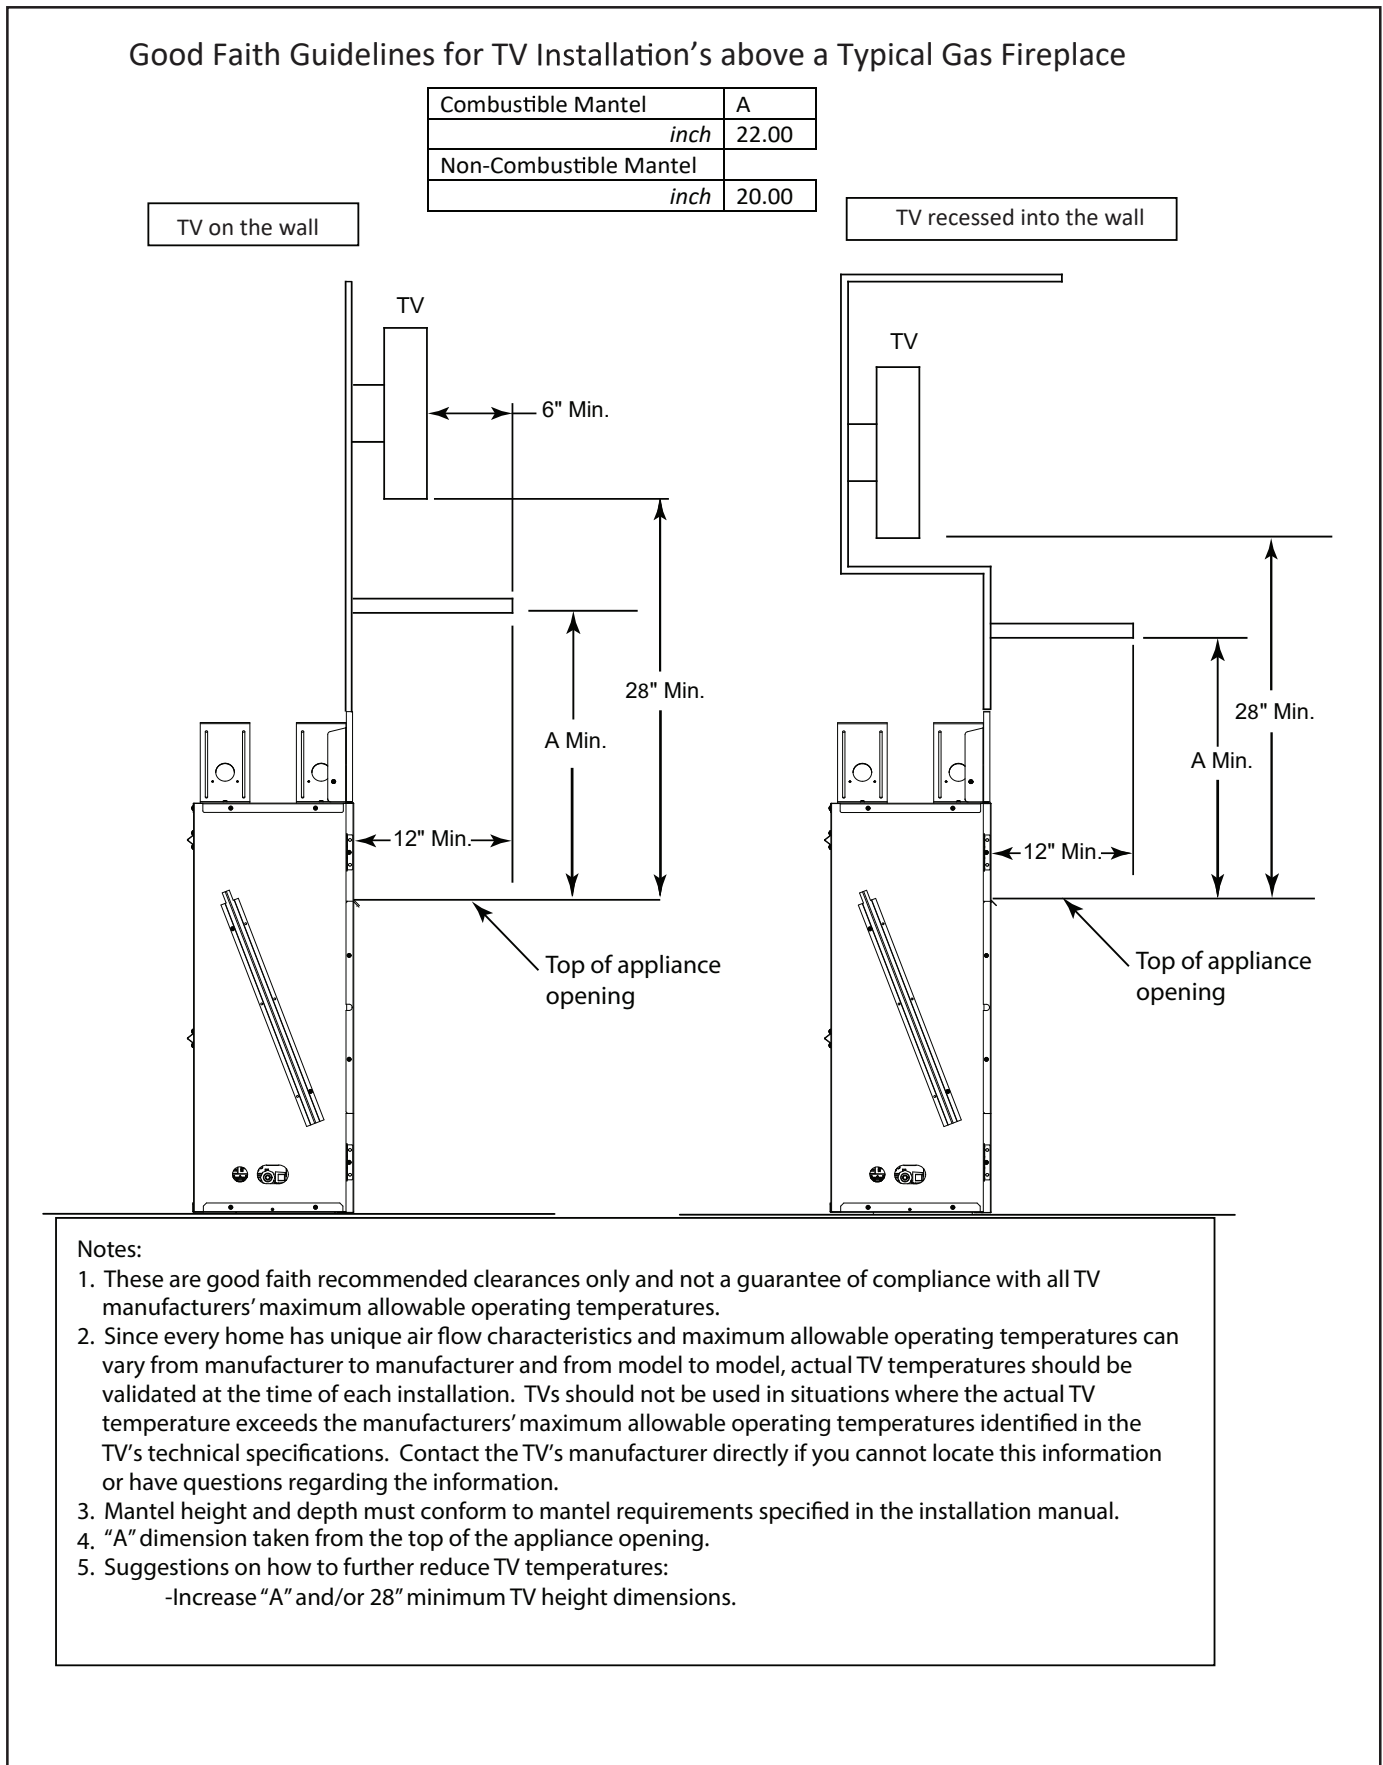

Figure 3.10 - Good Faith TV Guidelines
See Good Faith Guidelines for TV Installations on pages 16 & 17, Figure 3.10 & 3.11.
**Note:** Figure 3.10, 3.11, and 3.12 show the appliance installed on the floor. However, this appliance can be elevated off the floor provided that the appliance is properly supported by framing materials and the ceiling clearances are maintained.